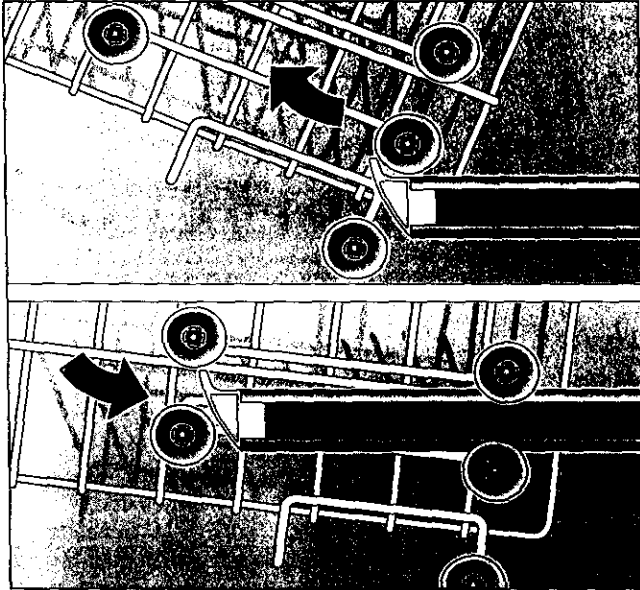

Figure 8.
The upper rack height of the Bosch dishwashers, except the SHU 5302 and SHU 5306 models, is adjustable. There are two positions, see figure 8:
- a. First empty upper rack and pull rack partially out to point where rack can be lifted upward as shown in upper illustration of Figure 8.